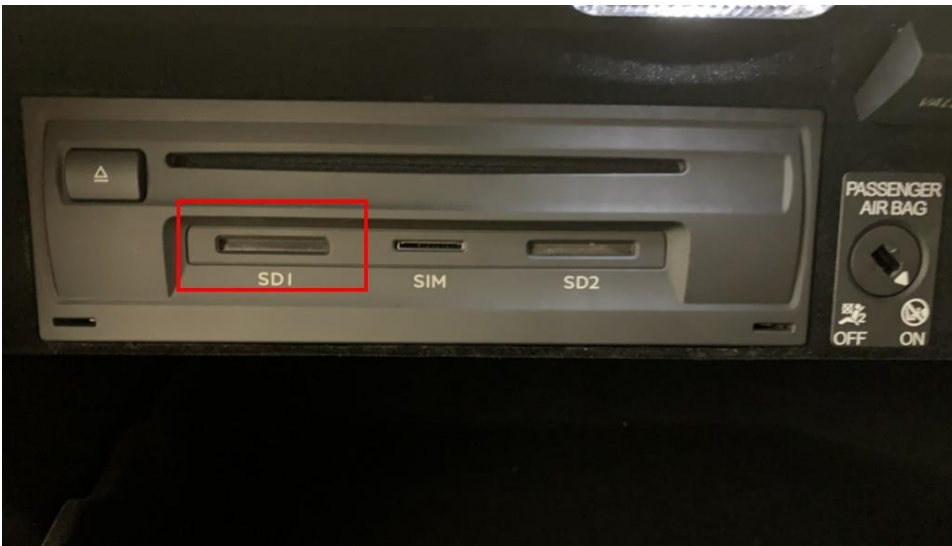

Figure 1
1. Fit the SD card in SD1 slot of the MIB, located in the glove box (Figure 1).